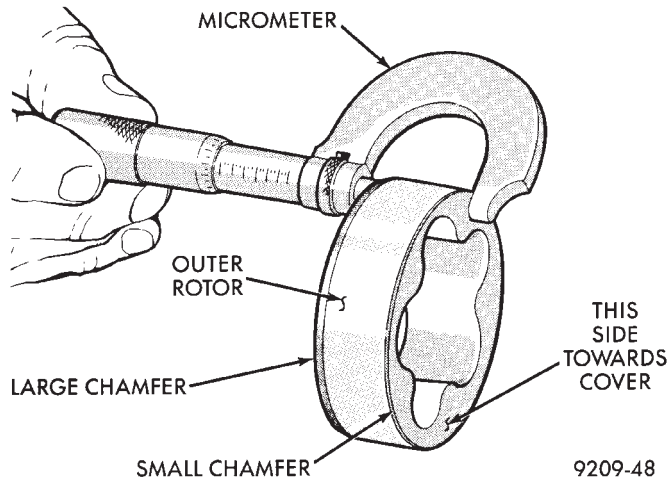

Fig. 9 Measuring Outer Rotor
- (3) Thickness: 23.96mm (.9435 inch) min. Outer Diameter: 62.7mm (2.469 inch) min (Fig. 9).
- (4) Install with large chamfered edge in pump body (Fig. 9).